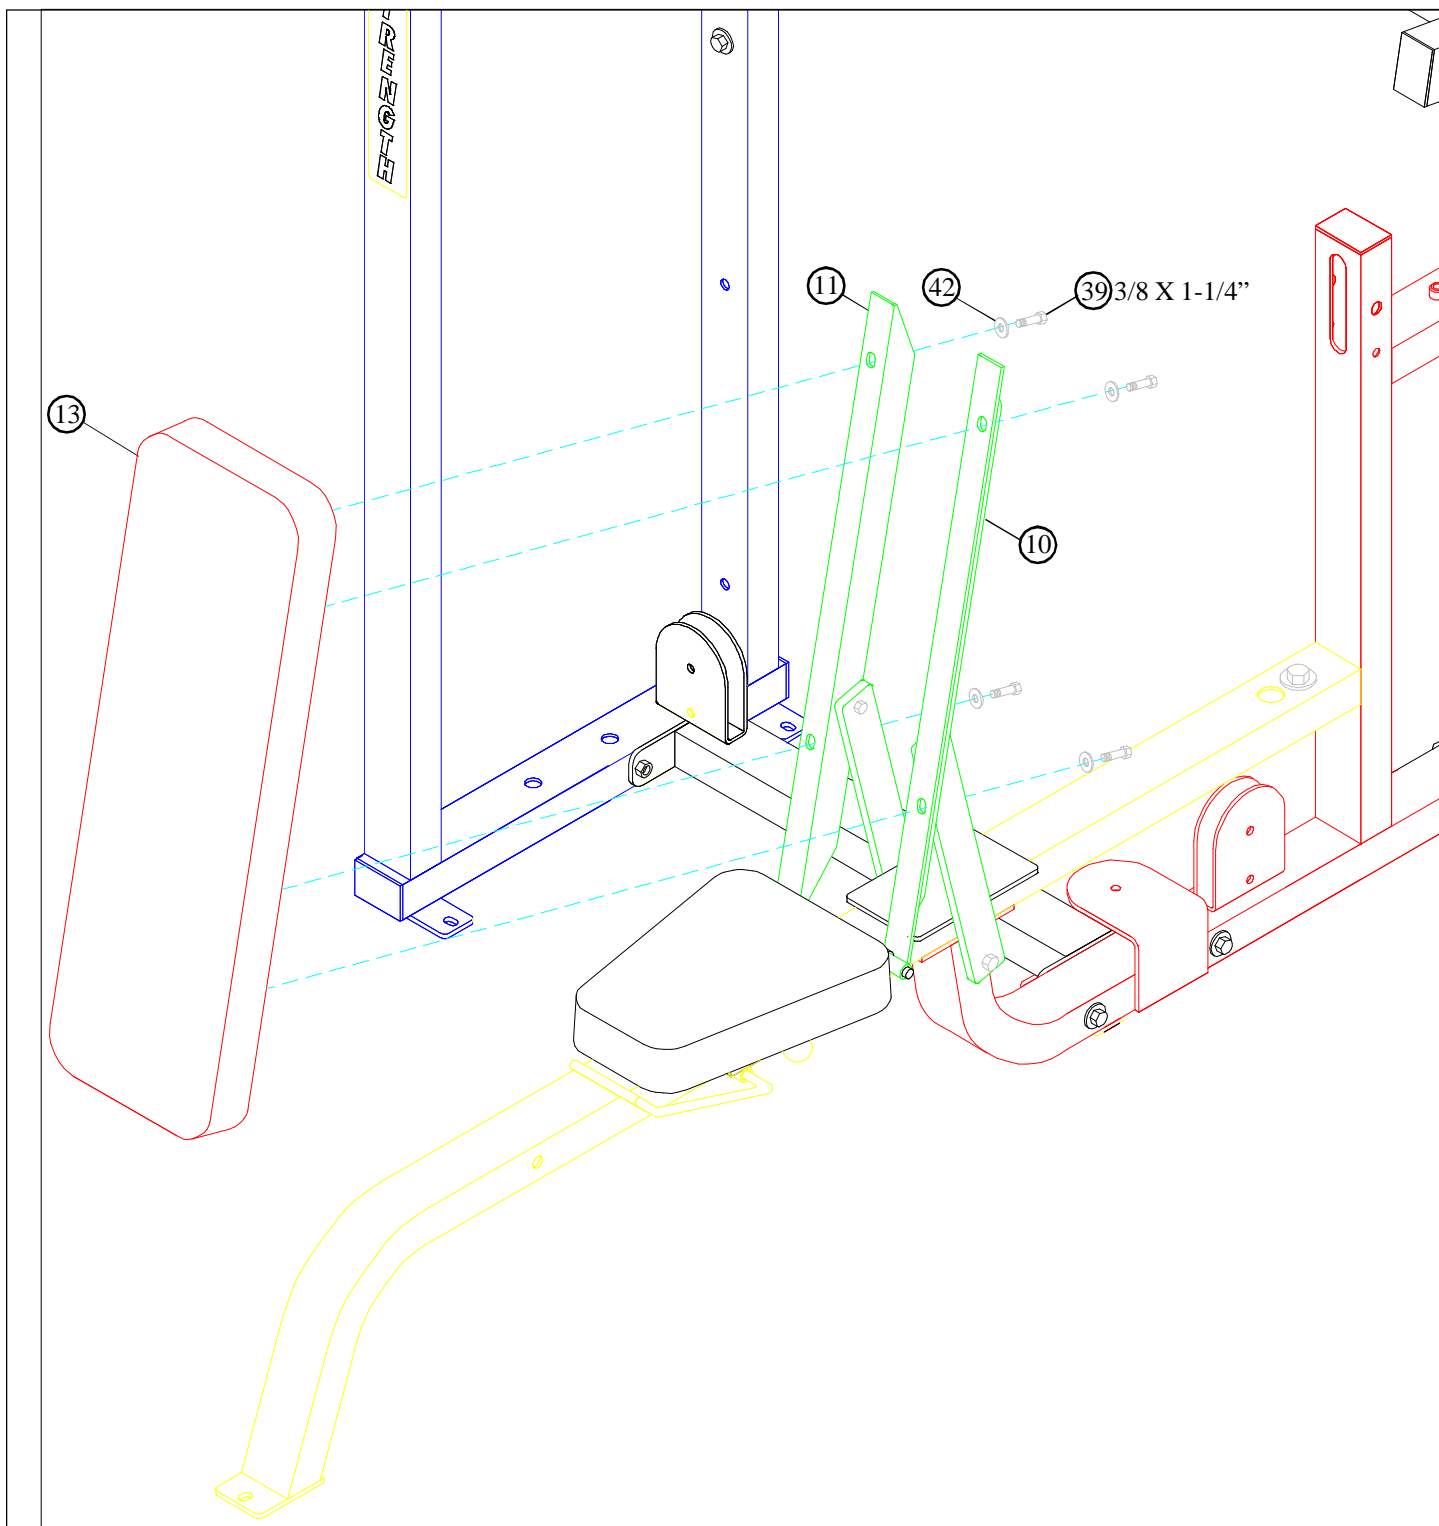

FIGURE 6
- **SECURELY** assemble the BACK PAD (13) to the LEFT & RIGHT BACK PAD ANGLES (11 & 10) using four 3/8 X 1-1/4" BOLTS (39) and four 3/8" WASHERS (42). See FIGURE 6.